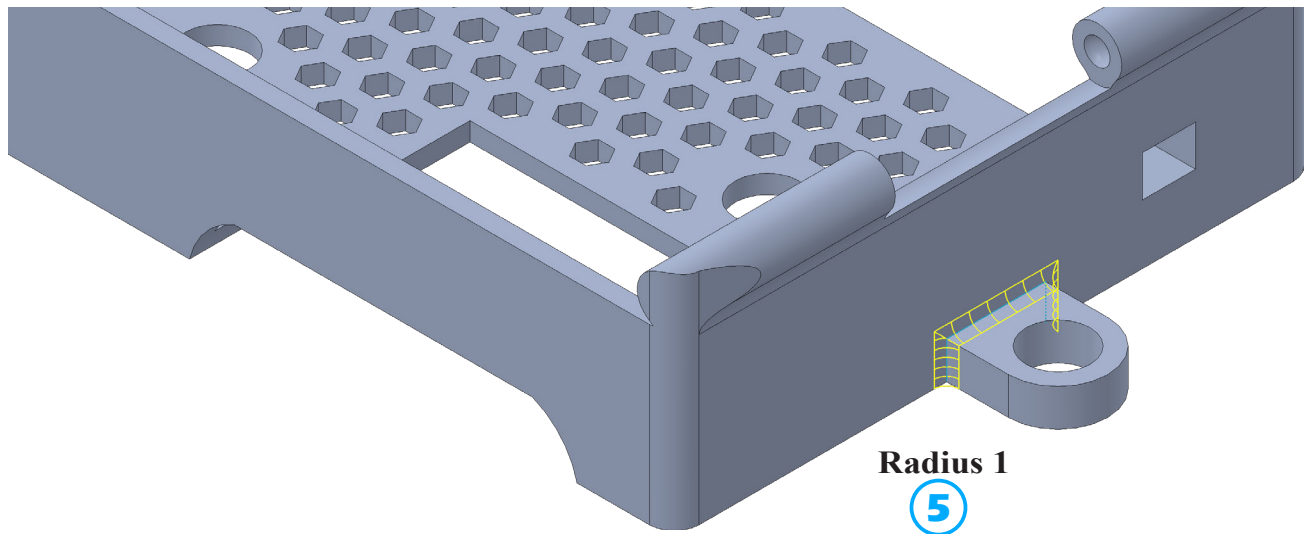

Fig. 121
- ⑤ **Radius**  **1**
click **side and top edges of hitch (3)**, Fig. 121